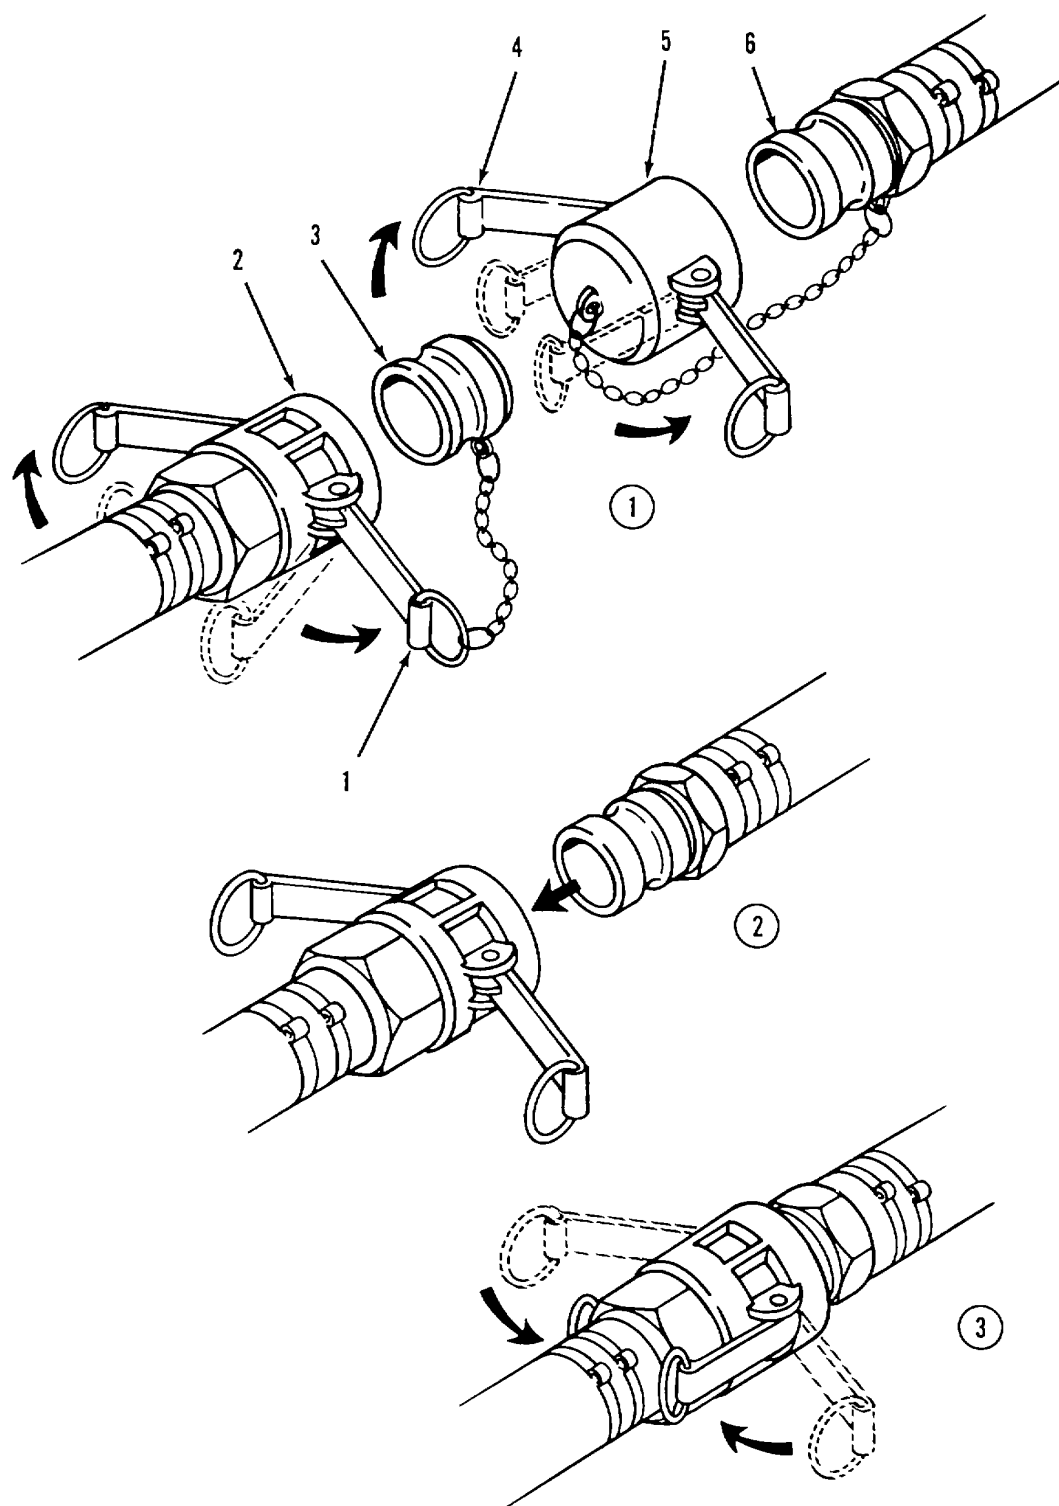

Figure 2-7. Quick Disconnect Couplings.
- (1) Open twelve tricon containers. Refer to TM55-8145-200-13&P.
- (2) Unpack contents of each container. To aid assembly, separate components into groups of similar parts during removal. For example, group all the 4-inch discharge hoses together, then all the 4-inch gate valves, 2-inch discharge hoses and so on until all components are unpacked.
- (3) Unpack hypochlorination unit. Refer to the applicable TM.
- (4) Unpack 125 GPM pumps. Refer to the applicable TM.
- (5) Unpack 350 GPM pumps. Refer to the applicable TM.
c. Quick Disconnect Couplings. Refer to figure 2-7